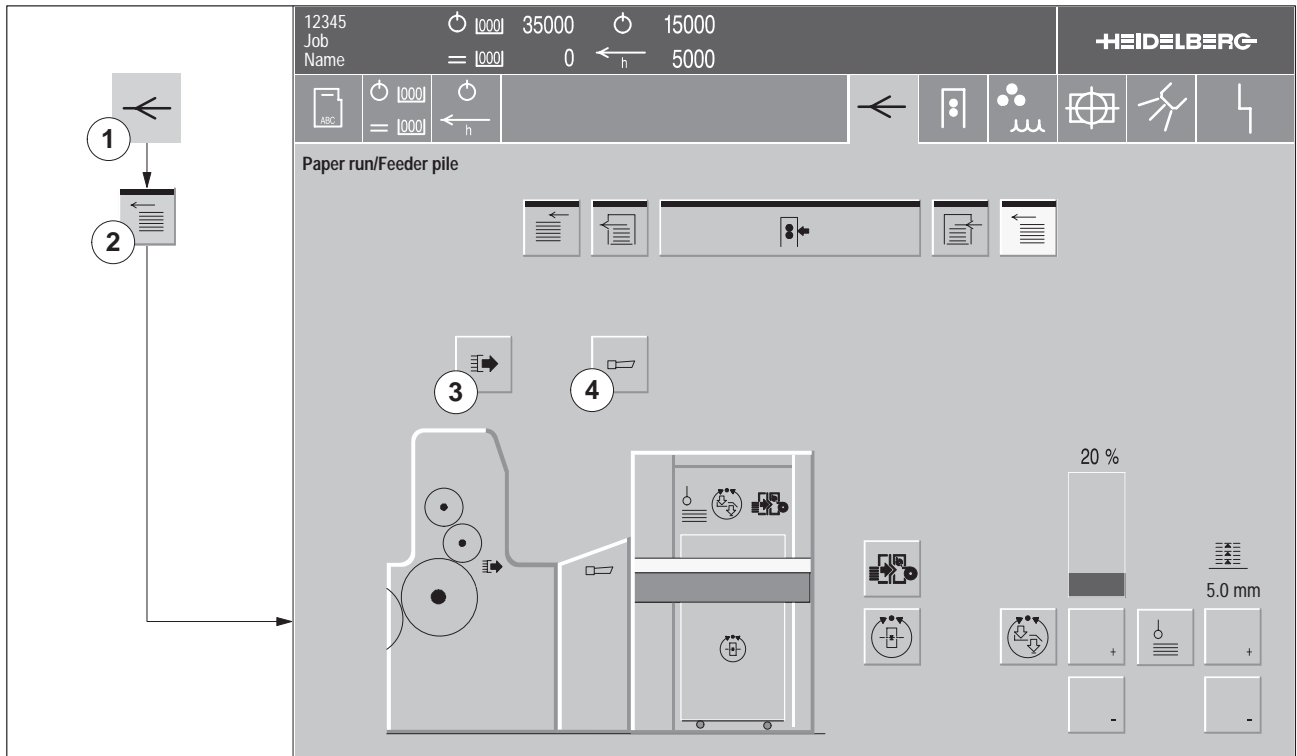

Fig. 2 Sheet travel/Feeder pile menu
1. Press the *Sheet travel* button (Fig. 2/1) in the banner line. The **Paper run** menu appears.
2. Press the *Feeder pile* button (Fig. 2/2). The **Paper run/Feeder pile** menu (Fig. 2) appears.
3. Switching the suction brush on/off: Press the button (Fig. 2/3). The button is highlighted when the suction brush is switched on.
4. Switching the pull horn on/off: Press the button (Fig. 2/4). The button is highlighted when the suction brush is switched on.